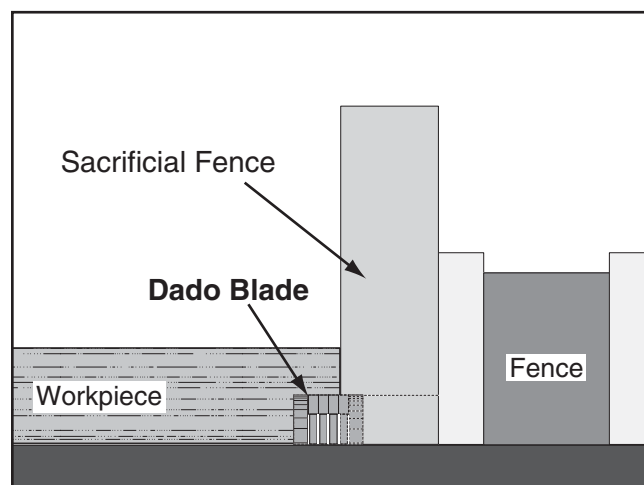

Figure 69. Rabbet cutting.
3. Adjust the fence and align the workpiece to perform the cutting operation, as shown in **Figure 69**.